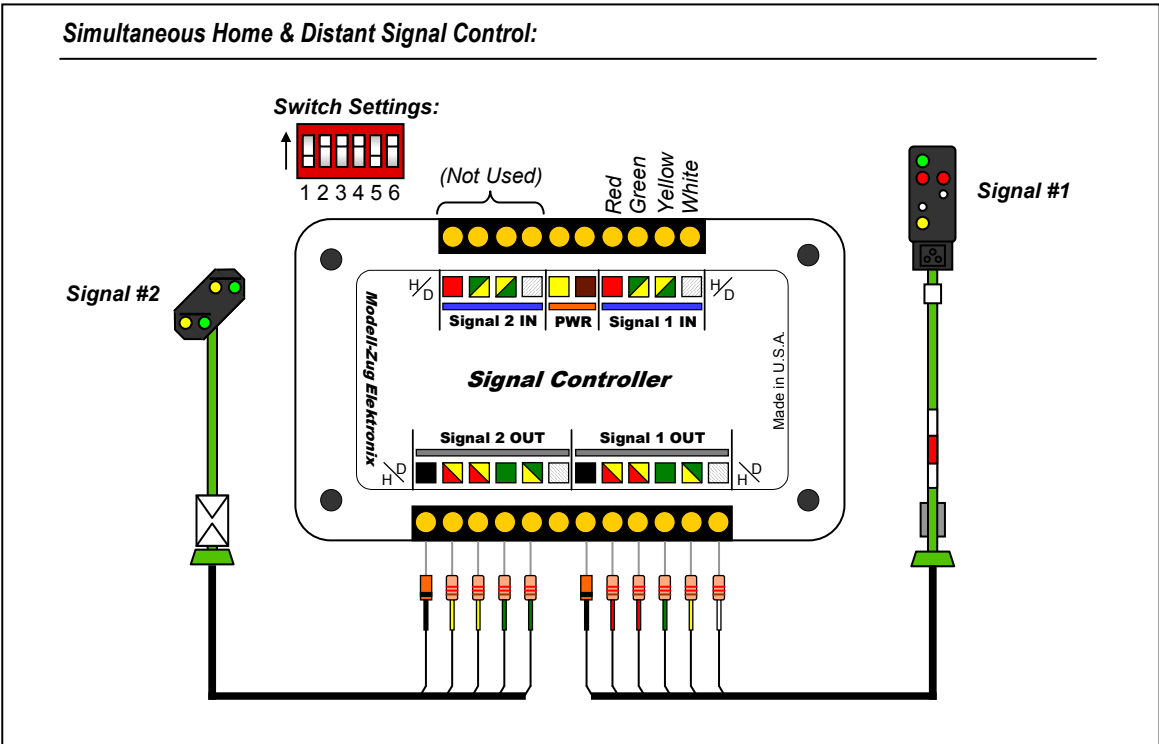

Figure 4. Connections for Simultaneous Control
- b) To control a home and distant signal pair simultaneously, follow the connections shown in Figure 4 below. The configuration switches must be set as shown in Figure 4 for the Simultaneous operating mode to function correctly. Input control should be provided through the Signal#1 IN connections only, this will control both signals at the same time.